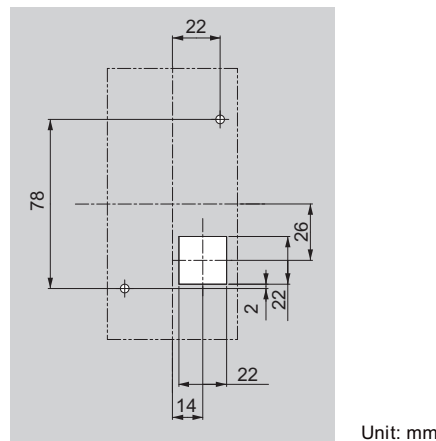

Figure 2.11 Panel Cut-Out Dimensions (External/Face-Mount Installation)
1. Cut an opening in the enclosure panel for the digital operator as shown in Figure 2.11.